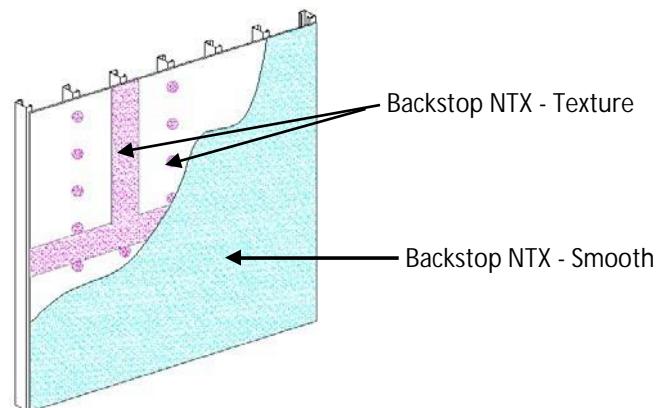

Fig. 19
- a. General: Dryvit Backstop NTX - Smooth can be applied using a roller or sprayed and back-rolled over the acceptable sheathing substrates. NOTE: OSB sheathing requires that joint and fasteners be treated with Backstop NTX – Texture. A minimum of two (2) coats of Backstop NTX – Smooth are required for the field of the wall. Backstop NTX – Texture is not recommended for application in the field of the board.
- 2) Backstop NTX - Smooth material should be applied in a uniform, continuous film at the recommended coverage rate – Figure 19. NOTE: Sheathing substrates with a surface texture or high porosity will require additional material.